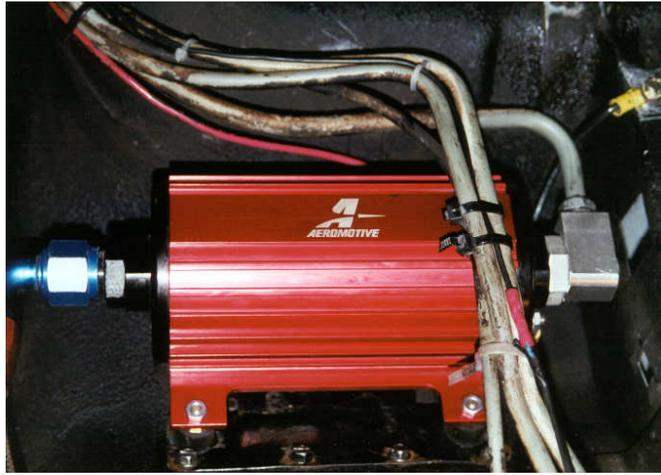

Figure 7
- 2-6. Inspect the o-ring on the OEM supply line and replace if damaged. Thread the OEM supply line into the 90-degree adapter fitting and tighten as shown in figure 7.